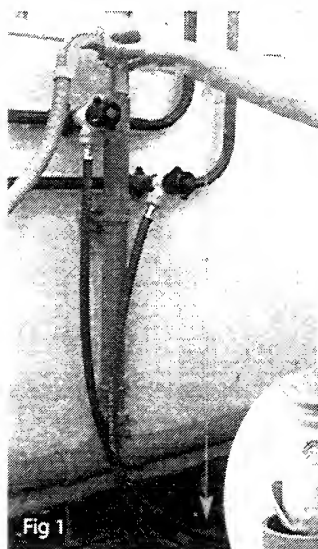

Fig 1
1. Ensure top of standpipe is positioned at least 500 mm from the floor (Fig 1).